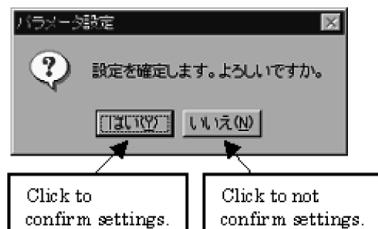

Fig. 8.5.2 Message Box
5. When the message box as shown in Fig. 8.5.2 appears, click [はい (Y)] [Yes] to confirm the changes you made. Click [いいえ (N)] [No] if you are not confirming.